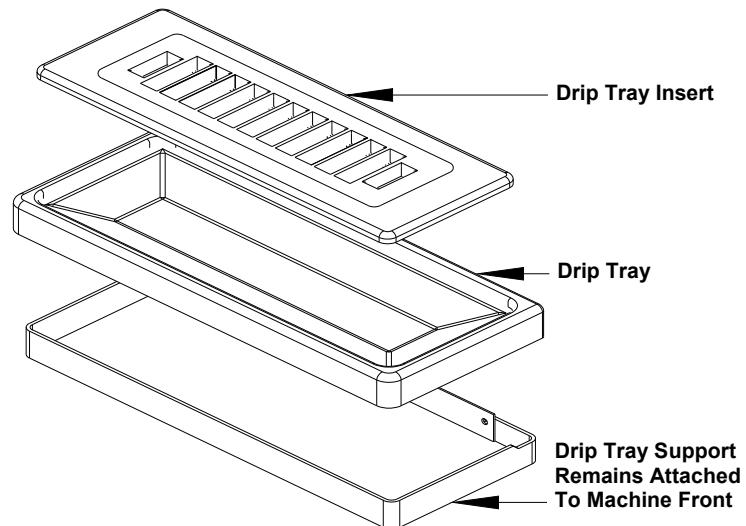

Fig. 14
8. Remove the mix pan lid, drip tray and drip tray insert (Fig. 14).